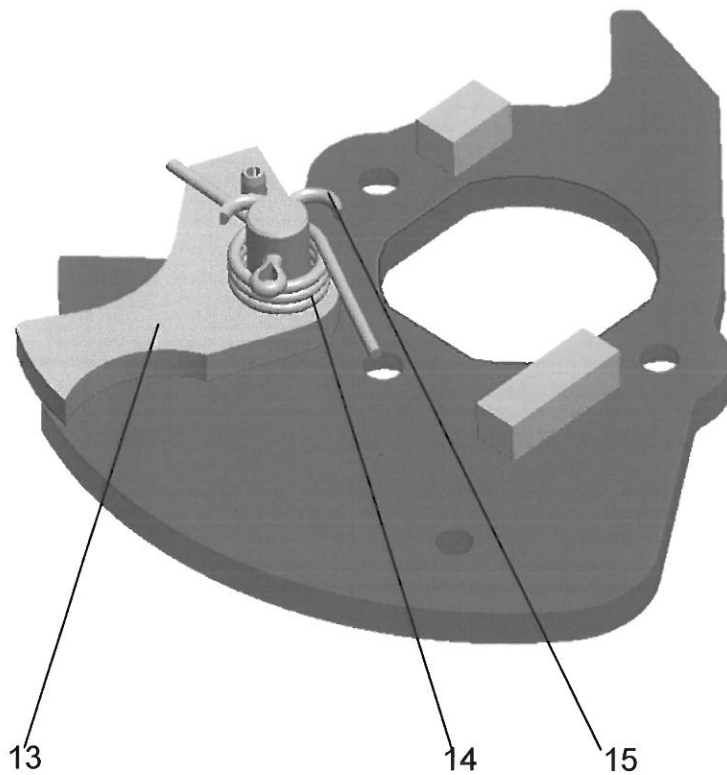

Fig. 12 Cam 50726261 assembled with resilient lock and torsion spring.
11. For Teeter Lever Assembly P/N 50530211-04 only, install the resilient lock cam 13, torsion spring 14, and Cotter pin 15 onto cam assembly 12 (see Fig.12)